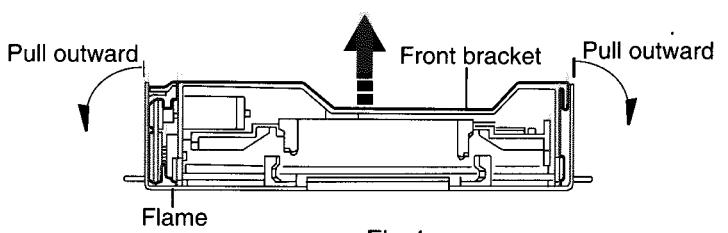

Fig.4
- 3.Remove the four ribs **a** securing the front chassis assembly to the chassis.(See fig 4)